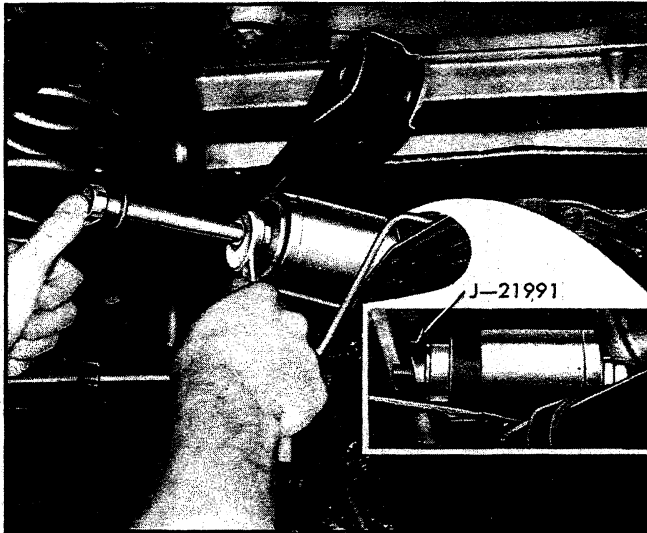

Fig. 41—Carrier Mounted Suspension Bushing Removal (Heavy-Duty) (Chevelle)
- c. Align tools on carrier ear and center remover adapter on bushing. Hold head of puller screw and turn 1/2 x 20 nut to withdraw bushing from carrier ear. Refer to Figure 41 for installed view of removal tools.